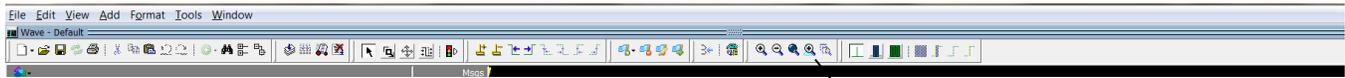
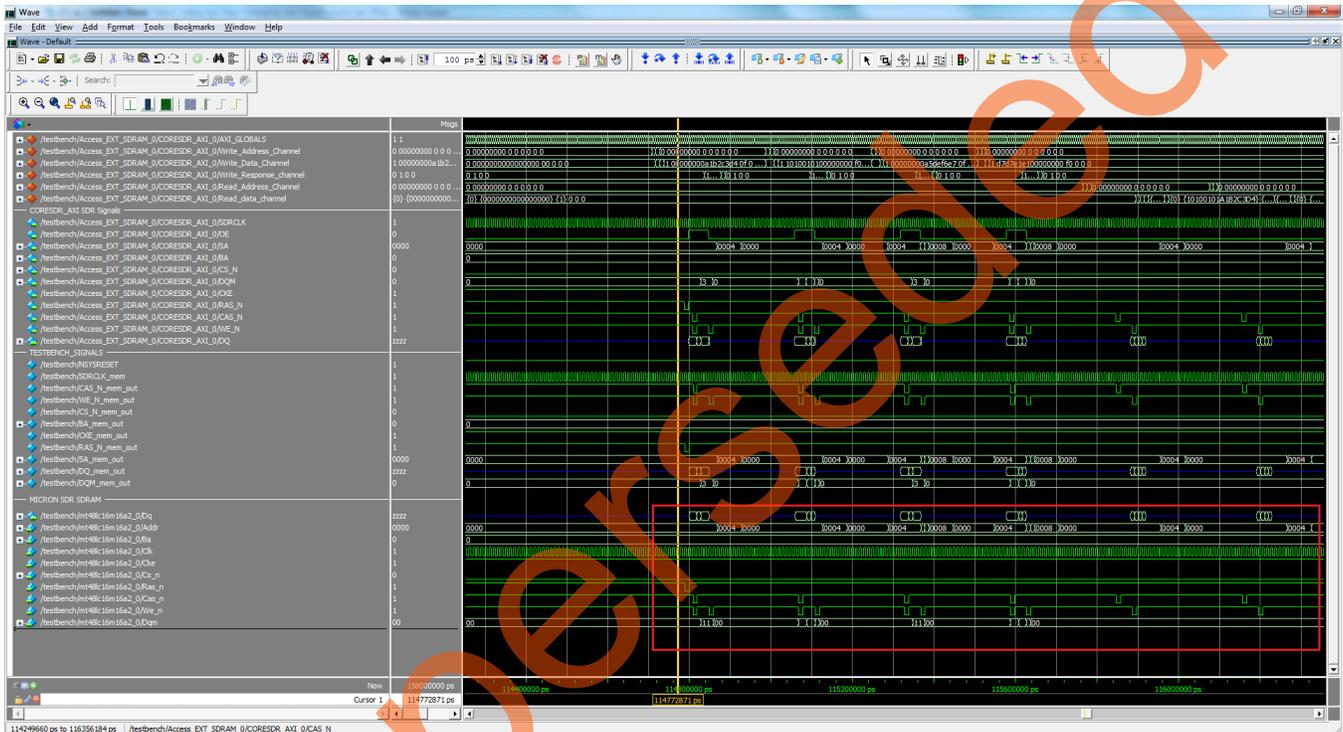

Figure 38. Zoom In on the Active Cursor
Figure 39. Write/Read Transactions
- Place the cursor at 114 us on the **Wave** window and click the **Zoom In on the Active Cursor** button to zoom in at that location, as shown in **Figure 38**. Click as needed until complete write and read transactions to the external SDR SDRAM is seen on the **Wave** window, as shown in **Figure 39**.